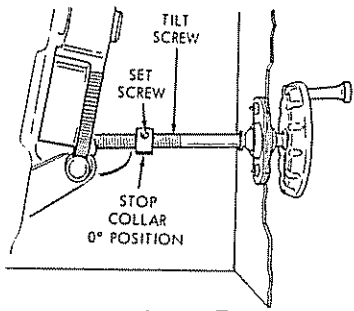

Figure 7
(3) If the blade is not square with table top, rotate the tilt hand-wheel counterclockwise until the tilt mechanism moves a short distance away from the stop collar on tilt screw. When the pointer on tilt scale indicates approximately 10 degrees, the stop collar can be reached. (See figures 7 and 9.)
(4) Loosen the two set screws in the stop collar, located on the tilt screw nearest tilt hand-wheel, with a small screwdriver and rotate the stop collar counterclockwise at least one turn. (See figures 7 and 8.)